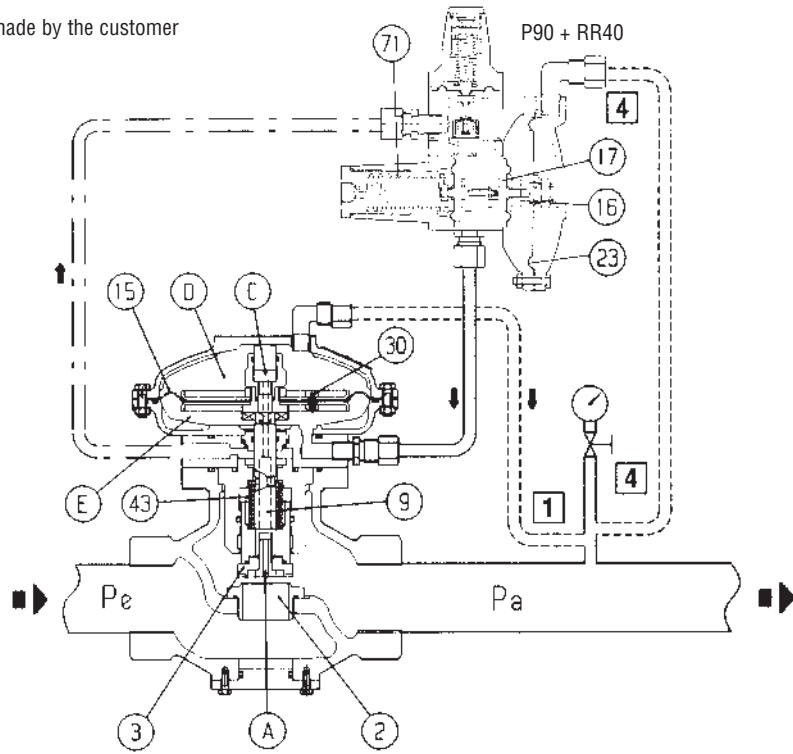

Fig. 1
1.2 OPERATION (FIG. 1)
If during operation, for example, there is a drop in the downstream pressure P_a (because of an increase in the flow rate demand, or a drop in the upstream pressure) there is an imbalance in the mobile assembly 16 of the pilot which moves and increases the opening of the obturator 17. As a result, the value of the motorization pressure P_m also increases and, acting on the chamber E below the diaphragm 15 (fig. 1) causes the obturator 3 to move upwards and therefore an increase in the opening of the regulator until the regulated pressure set point is restored. Vice-versa, when the regulated pressure begins to increase, the force exerted on the diaphragm 23 shifts the mobile assembly 16 and moves the obturator 17 towards the closed position. The pressure P_m then drops, due to the transfer between chambers E and D through orifice 30, and the force exerted by spring 43 causes the obturator 3 to move downwards, thereby returning the regulated pressure to the set point.